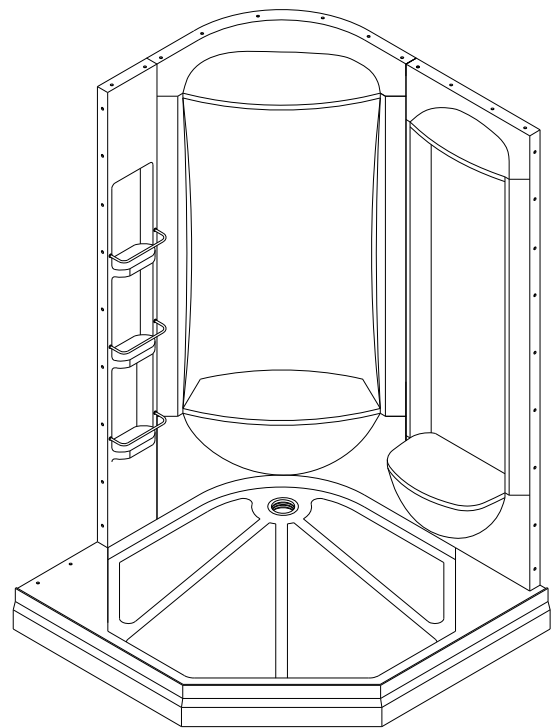

Fig 8
8. Connect the **Shelf panel (04)** and the **Back panel (02)** with **Bolt M6x20 (with nut, washer) (23)**. Secure the shelf panel to the tray with **Bolt M6x40 (22)**. See Fig 8 for details.